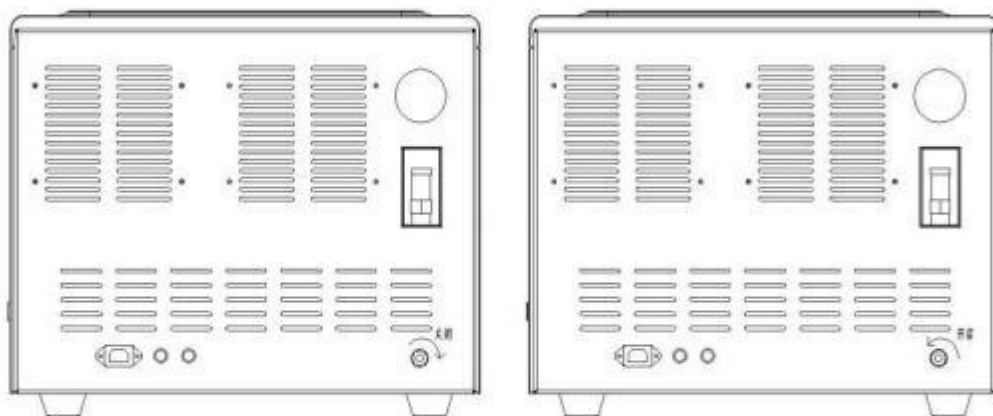

Figure 18
- C. Turn the drain knob valve counterclockwise until it cannot rotate anymore, as shown in Figure 18;
- E. After the waste water is drained, turn the knob valve clockwise to close it, as shown in Figure 18 below.